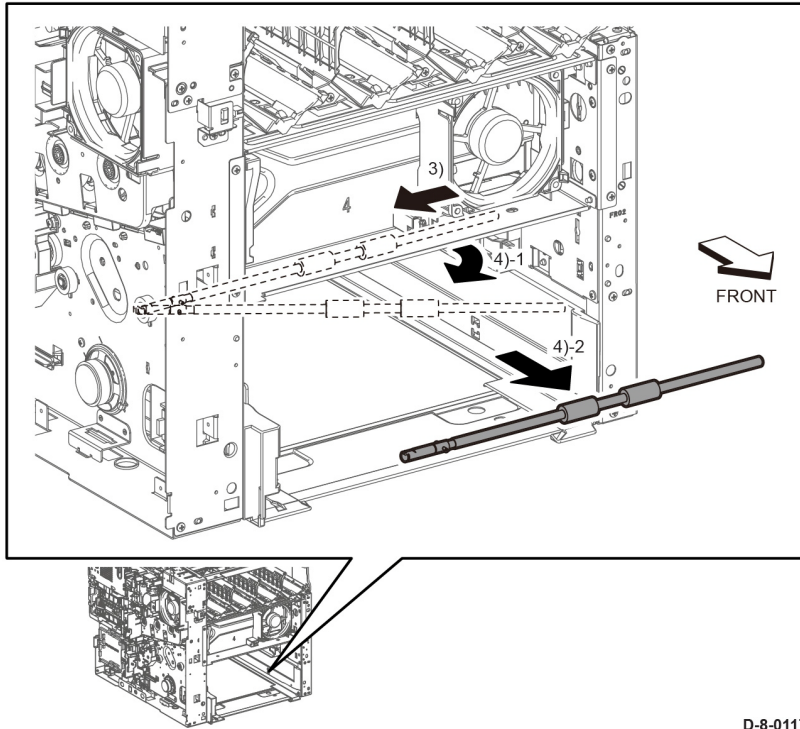

Figure 2 Remove the bypass tray TA1 roller assembly
5. Remove the TA1 roller assembly in the direction of the arrow, Figure 2.